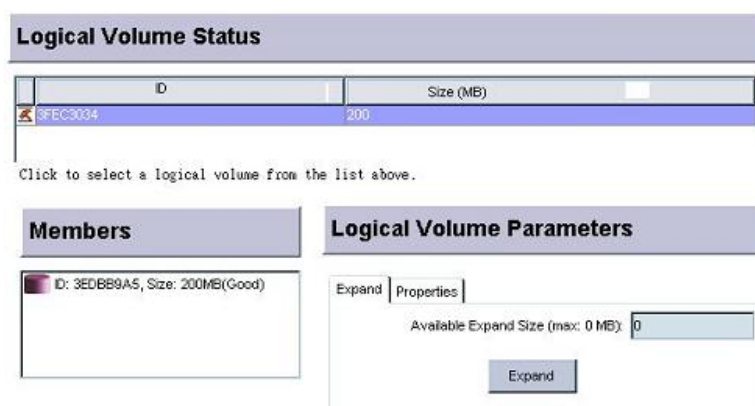

Figure 9-20: Existing Logical Volumes Window
**Step 1.** Select a configured LV from the **Existing Logical Volumes** window shown in *Figure 9-20*. As shown below, all the LVs that have been created will appear below the **Logical Volume Status** panel.